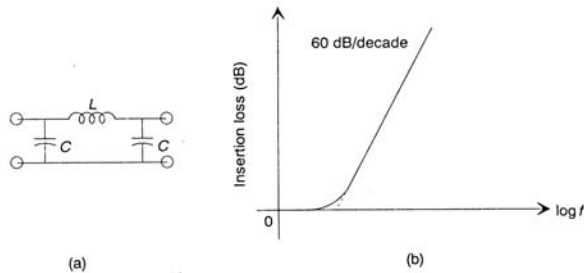

Figure 10-7  $\pi$ -section filter
**10-2-2-4  $\pi$ -Section Filter.** This configuration, which is shown in Figure 10-7(a), is the most common type used in practice. Its advantages include an ease of manufacture, higher insertion loss over a broad frequency band, and moderate space requirements.